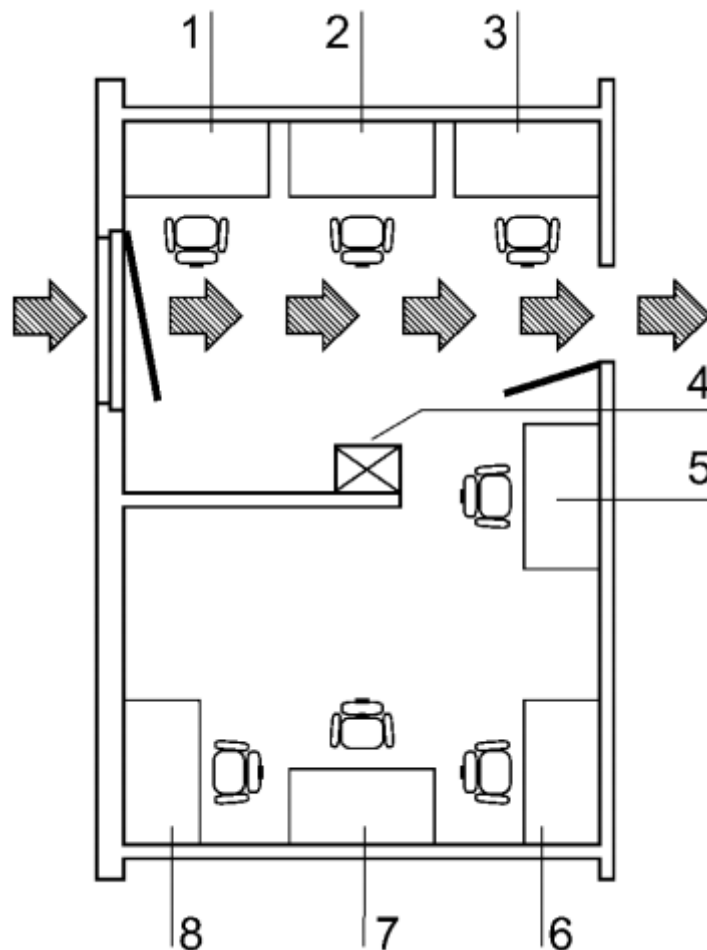

Figure 2 Safety Cabinet Installation Position Schematic Diagram in the Room
In the room layout of Figure 2, position 1, 2 and 3 are unfit for installing biosafety cabinet because they are located in the vicinity of airflow channel formed due to door and window. Located in the room channel and within the airflow range of ventilation opening (position 4), the position 5 is liable to be affected. Comparing with others, position 6, 7 and 8 are relatively suitable in the room layout.
2. Shift the chassis below the cabinet, lift and chassis to make it align with interface, then, slowly lay the main body down. As shown in Figures 2 and 3.